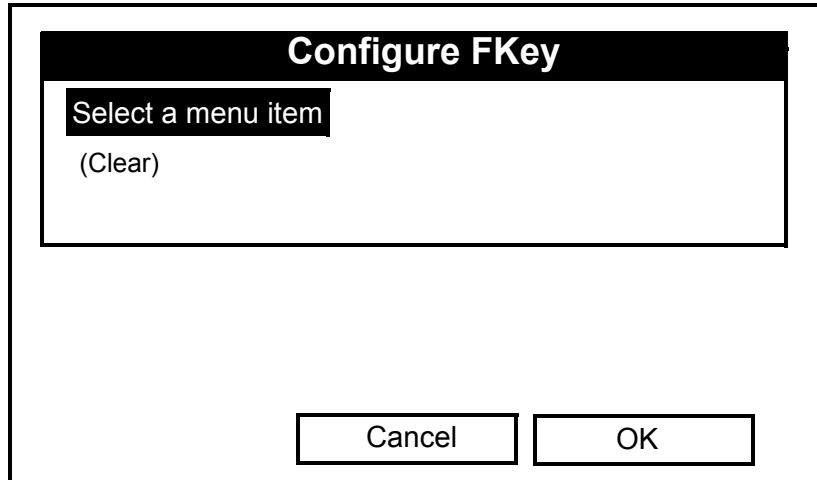

Figure 3-9: The Configure FKey Window
4. Use the [▼] or [▲] arrow keys to select the desired *FKey* (for example, *F1*) and press [ENTER]. The *Configure FKey* window (see Figure 3-9 on the next page) opens.
Note: *A softkey can also be cleared in the Configure FKey window (see Figure 3-9 on page 3-10) by selecting the Clear option and pressing [ENTER] and then [F3] (OK).*